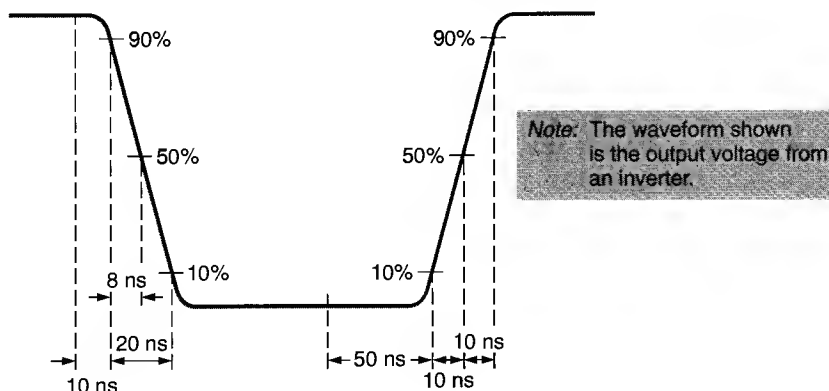

FIGURE 19.54
20. Determine the values of t_d , t_r , t_s , and t_f for the waveform in Figure 19.54.